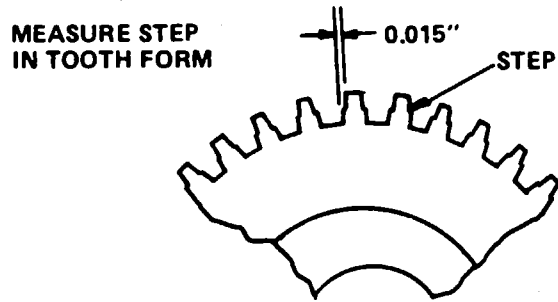

Figure 27-29. Checking for Worm Gear Wear
5. Inspect worm shaft and worm gear for excessive wear. If worm gear is worn more than 0.015 inch. (Refer to Figure 27-29) the worm gear and worm shaft must be replaced as a set.